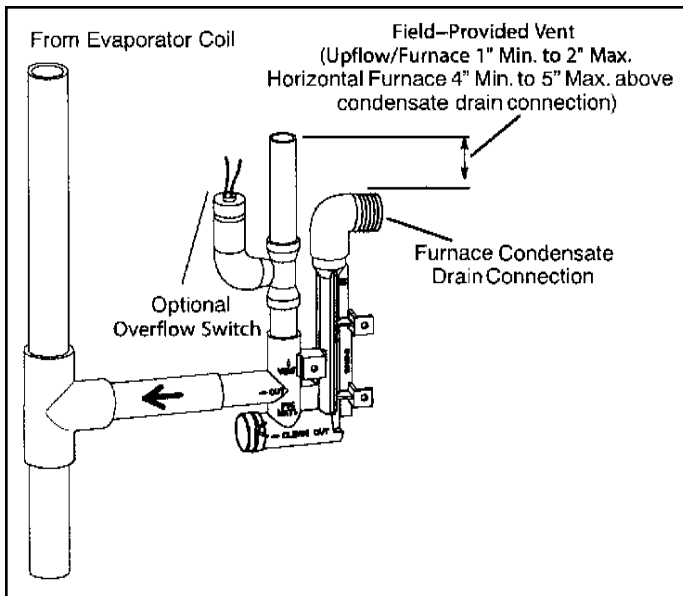

Figure 59. Condensate Trap with Optional Overflow Switch
5. Install field provided vent on trap assembly as shown in Figure 53 through Figure 59. Trap must extend at least 1" above the furnace condensate drain connection in upflow applications and 4-1/2" above the bottom of the cabinet in horizontal applications.